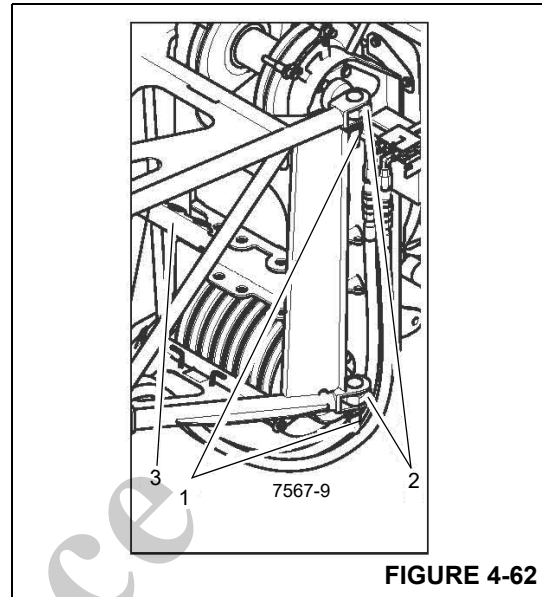

FIGURE 4-62
- Remove the retaining clips from the pins (1) (Figure 4-62) securing the extension to the left side of the boom nose and remove the pins from the connecting